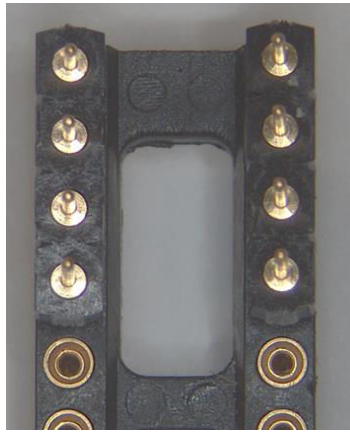

Figure 2-5. Terminal strip (TS-132-G-AA) inserted into spare DIP socket
5. Insert the header strips into a spare DIP socket or breadboard as shown in Figure 2-5.